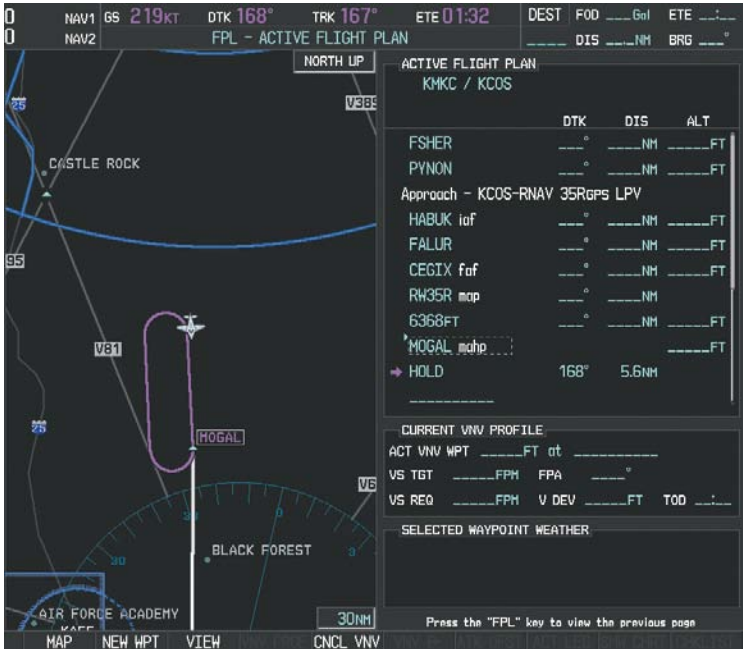

Figure 5-146 Hold Established
27) The aircraft maintains 10,000 feet while following the magenta line through the hold as in Figure 5-146.